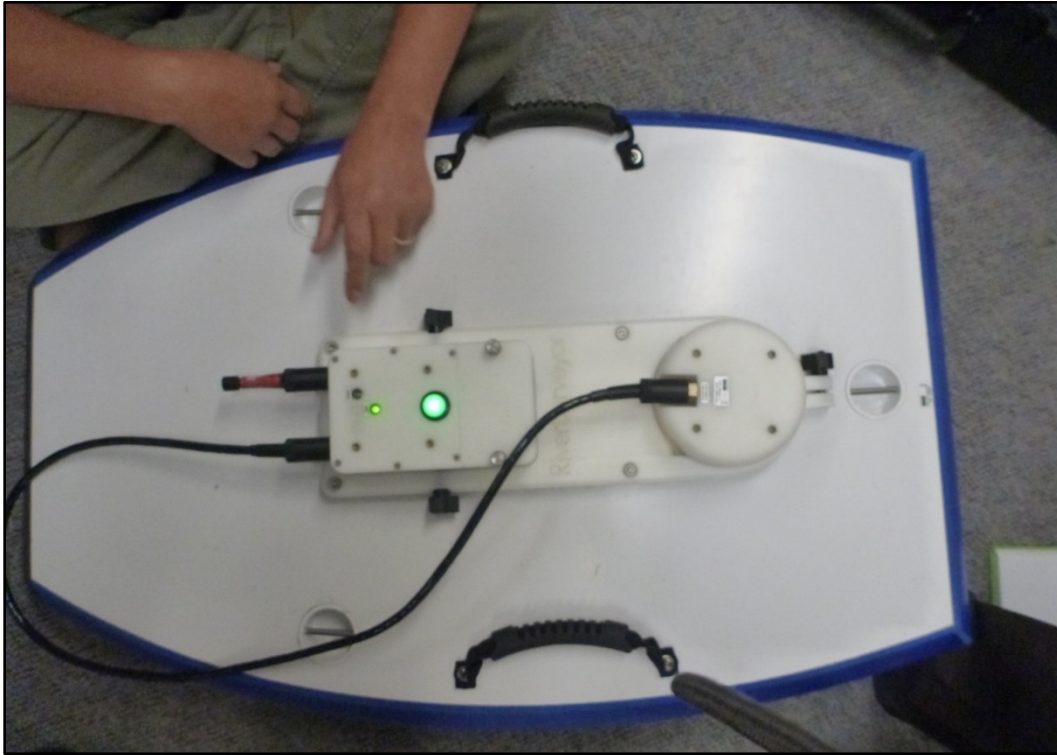

Figure 10.—Check Bluetooth is working with laptop. Should see both lights illuminate green if connected to laptop.
- e. Turn on PCM (large button on top) and check Bluetooth is working with laptop. Should see both lights illuminate green if connected to laptop (figure 10).